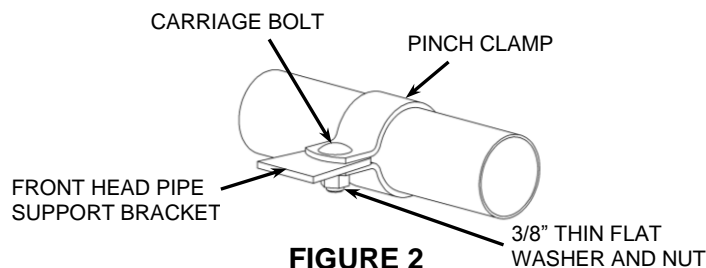

FIGURE 2
8. Slide the supplied pinch clamp over the front headpipe making sure the square hole on the clamp is facing up and towards the inside. Position the clamp over the support bracket so that the pinch clamp captures both sides of the bracket. See **FIGURE 2**. Insert the supplied 3/8" carriage bolt through the top of the pinch clamp and support bracket. Install the 3/8" thin flat washer and nut onto the bottom of the carriage bolt but **DO NOT TIGHTEN** at this time. Leave the nut loose so the headpipe can be adjusted.
15. Then fully tighten the flange nuts on the exhaust port studs, followed by the nut for the 3/8" carriage bolt on the front headpipe support clamp and the nut on the front headpipe support bracket. See **FIGURE 2**.